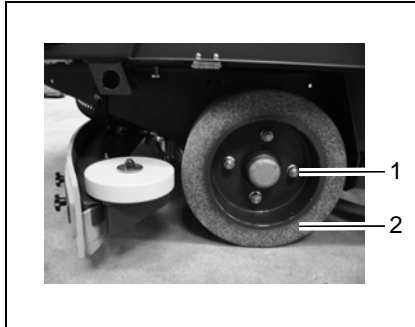

Fig. 40
The wheel nuts on the wheels (Fig. 40/1) must be subjected to their first check after 100 operating hours and subsequently every 200 hours.
The tightening torque for the wheel nuts (Fig. 40/1) is 103.3 lb ft.
2. Remove the wheel nuts (Fig. 40/1).
3. Pull off the wheel (Fig. 40/2).
4. Fit a wheel (Fig. 40/2).
5. Screw on and tighten the wheel nuts (Fig. 40/1).